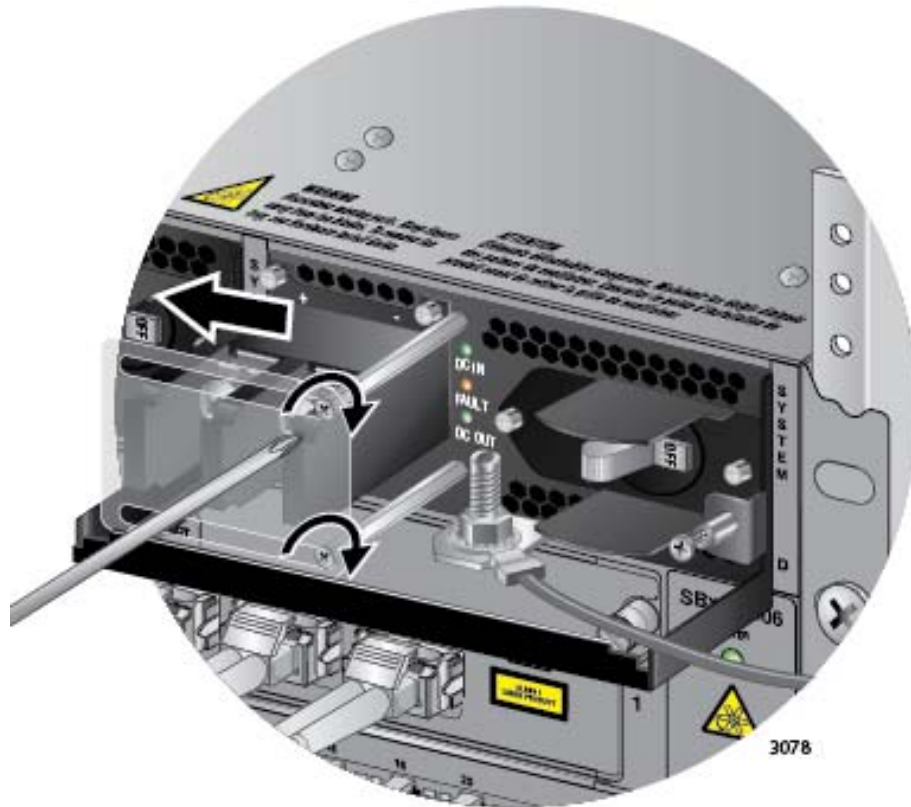

Figure 157. Closing the Plastic Cover
8. Slide the plastic cover to the left and lightly tighten the two screws to secure it in place. Refer to Figure 157 on page 242.